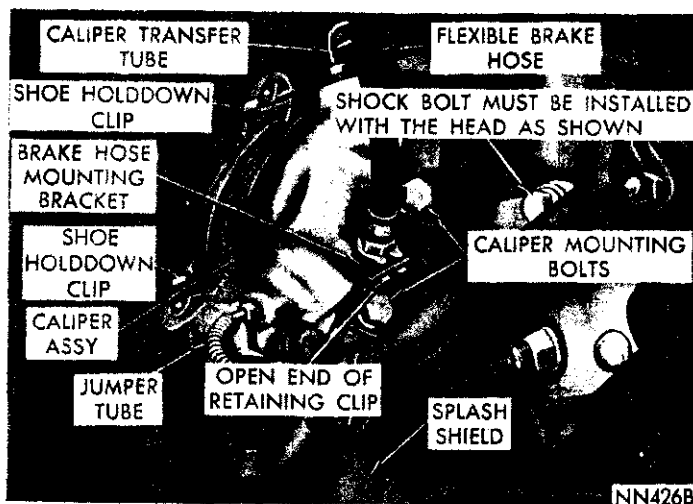

Fig. 4—Disc Brake Caliper Mounting
6) and are supported radially by "ears" on the outer ends of the shoe assemblies. The shoes slide axially in the abutments and ride on machined ledges (bridges) when hydraulic pressure is applied to the pistons. The lining assembly consists of organic friction material, bonded to a metal plate called the shoe, and is replaced as a unit. Brake torque is absorbed by the reaction of the shoe end against the caliper abutments. Two spring clips bolted in the top opening of the caliper act as shoe retaining springs. The caliper is mounted directly to the front wheel spindle and at the rear of the wheel's vertical centerline (Fig. 4).
disc and lining surfaces (Fig. 4). The wheel, itself, provides protection for the outboard surface of the disc.